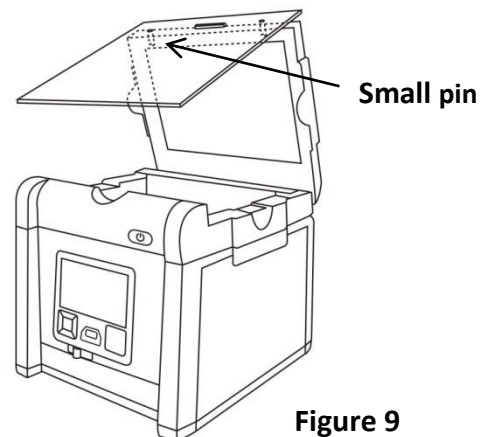

Figure 9
4. Place the amber filter board onto the filter board hanging tab so the filter board may hang as shown in (**Figure 9**).